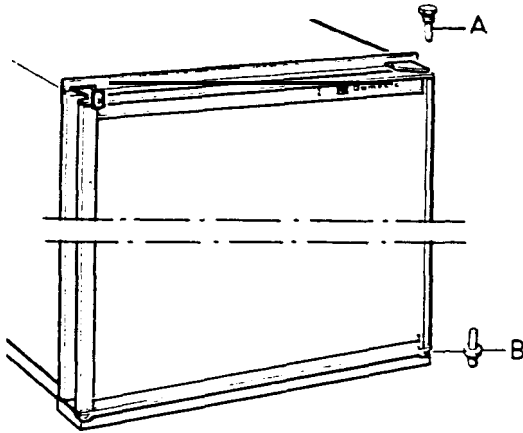

Fig. 31
1. Unscrew and remove upper hinge bolt (A fig. 31), incline the door outwards and lift off the door. (Check that washer and nylon bushings are in the right positions).
2. Move the lower hinge bolt (B) to the opposite side.